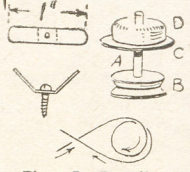

Fig. 5—Details of small fittings
Now take in hand the making of the steering arrangement, details of which are shown in Fig. 5. First cut a piece of  $\frac{1}{2}$ in. round rod (A), 1 $\frac{1}{2}$ ins. long, and on the lower end glue the grooved wheel (B). This may be 1in. diameter and the groove round the edge can be cut in with a rat-tail file.
Push the round rod through the hole in the deck from below and lay over it the thin disc (C) consisting of felt or rubber. Then again, above this, glue on the plain  $\frac{1}{2}$ in. disc (D) to form a kind of knob for turning. Thus, when a fine piece of cord is attached to the front cross axle and brought back and carried round in a double loop as seen in Fig. 5, round the grooved wheel, the axle can be held firmly in place, the washer forming sufficient grip to hold it until the knob is again moved.
inside the fold or just tied to the three corners. The mainsail at the stern is held down by a cord attached to the spar and run through eyes in the deck. From here it is fastened by being wound on a cleat or bollard, formed up from a small length of brass strip holed in the middle and bent up and screwed to the deck. The detail of the cleat is given in Fig. 5.